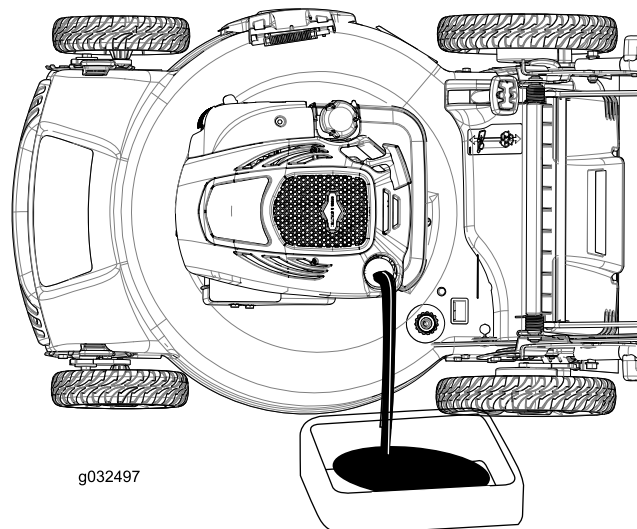
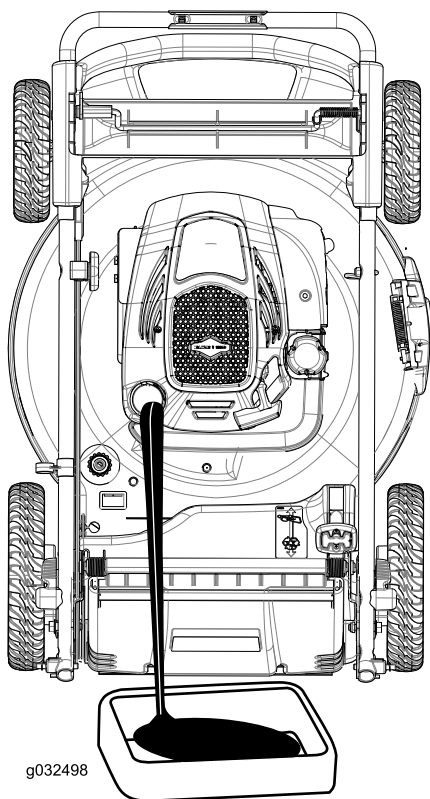

Figure 24
Figure 25
4. Tip the machine onto its side with the dipstick down (Figure 24) or set the machine in the vertical-stow position (Figure 25; refer to Storing the Machine in the Vertical-Stow Position \(page 12\)) to drain the used oil out through the oil-fill tube.